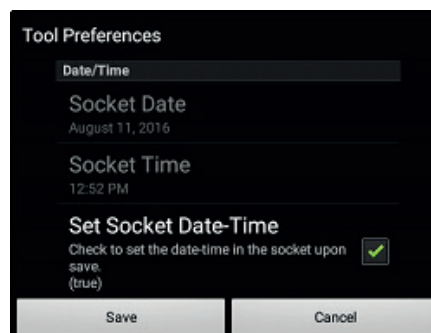

Figure 4-6: Date and Time Preferences
**Tool Date and Time Preferences** (Figure 4-6)